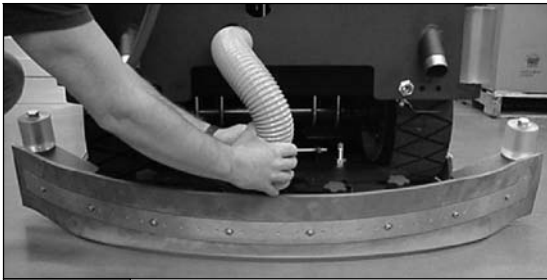

FIGURE 15.
*NOTE TIPS OFF THE FLOOR. (SEE FIGURE 15.)